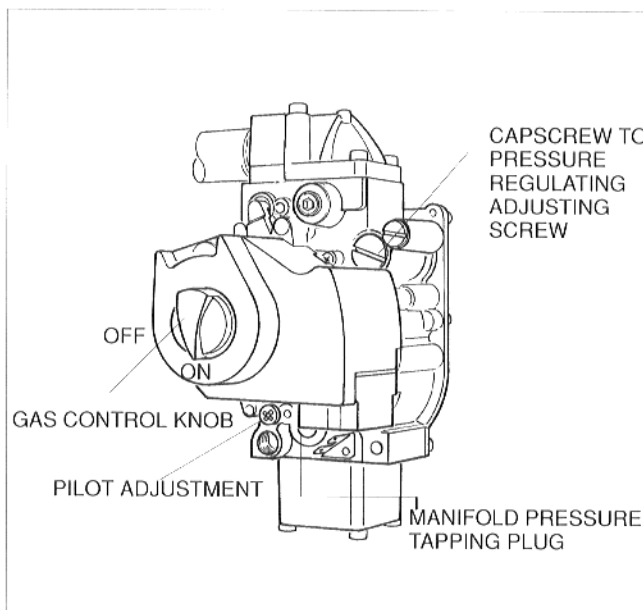
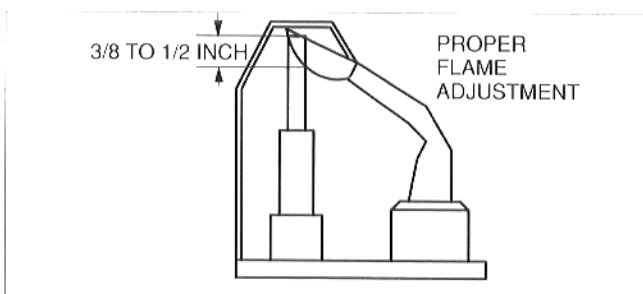

Fig.9
Fig.10
- 45 After adjustment, install the capscrew on the gas control, fig.9.
- 46 Observe the pilot flame through hole in the burner assembly plate. The flame should envelop the flame sensor $3/8 - 1/2$ inch, fig. 10. If the pilot flame is satisfactory then go to step 47. If the pilot flame is too small or too large, adjust the pilot using the pilot adjustment screw., fig. 9. Turn the inner adjustment screw clockwise  to decrease, or counterclockwise  to increase the pilot flame. After adjustment, replace the cover screw and tighten firmly.